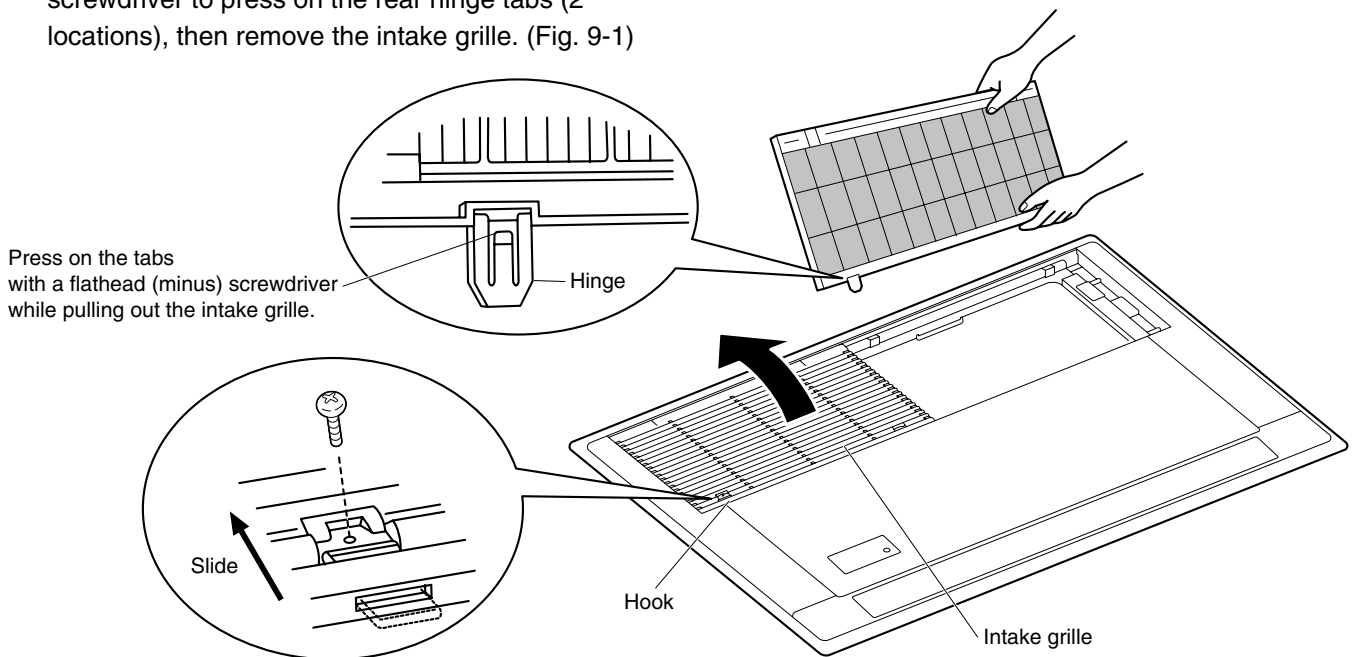

Fig. 9-1
- (1) Remove the 2 screws that fasten each of the 2 grilles in place. (Fig. 9-1)
- (2) Slide the intake grille hooks (2 locations) in the direction of the arrow to open the intake grille. (Fig. 9-1)
- (3) When the intake grille is open, use a flathead (minus) screwdriver to press on the rear hinge tabs (2 locations), then remove the intake grille. (Fig. 9-1)